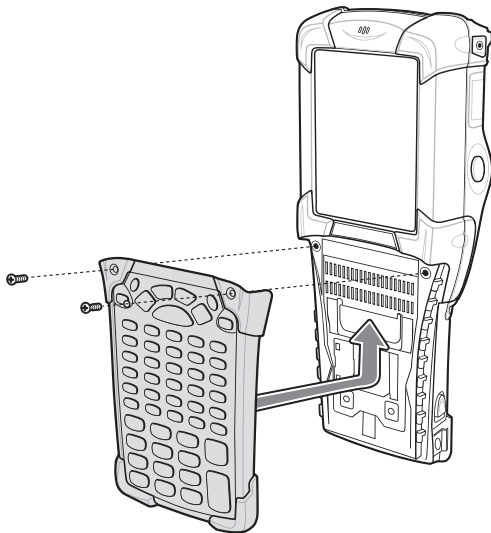

Figure 3-2 *Installing the Keypad*
5. Replace the keypad and re-attach using the two screws (see Figure 3-2 on page 3-4).